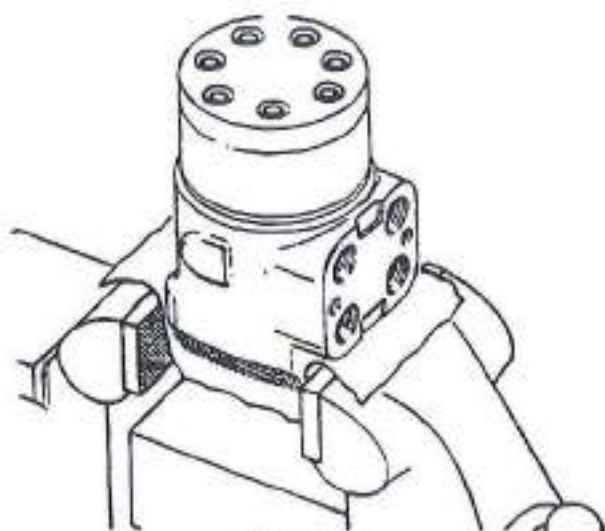

Figure 1
1. Clamp unit in vise, meter end up. Clamp lightly on edges of mounting area, see Fig. 1. Use protective material on vise jaws. Housing distortion could result if jaws are overtightened.